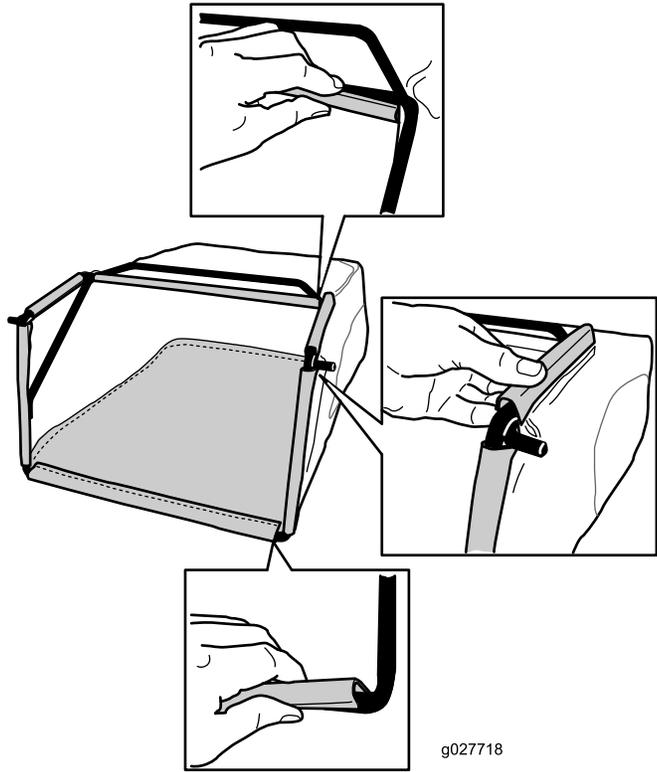

Figure 8
- 3. Hook the top and side channels of the bag onto the top and sides of the frame, respectively (Figure 8).
- 2. Hook the bottom channel of the bag onto the bottom of the frame (Figure 8).